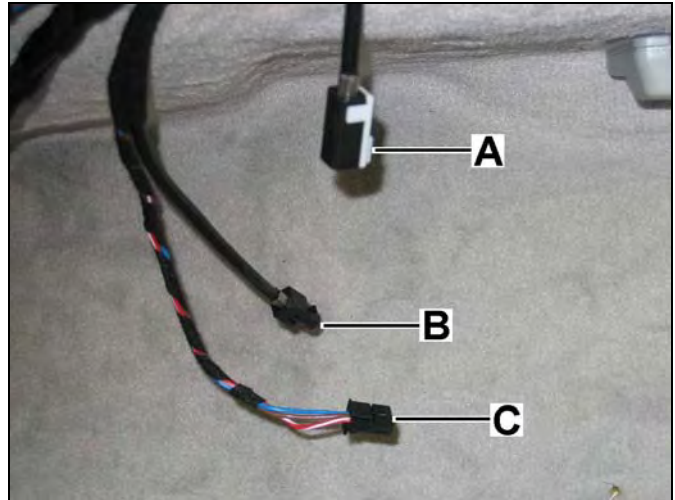

Figure 3
- **NOT USED** Female, black FAKRA antenna lead (A, Figure 3)
- Male, black FAKRA **TELEPHONE** antenna lead (B, Figure 3)
- Linear compensator power supply connector (C, Figure 3)